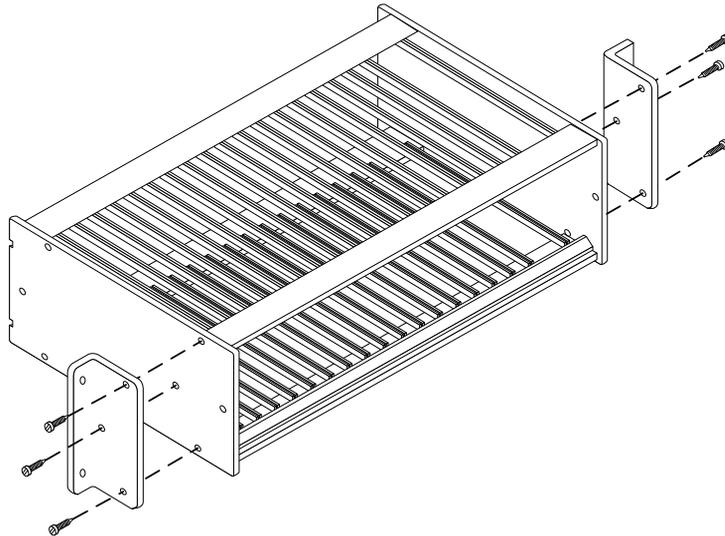

Figure 4. PSAX 1250 Chassis with Rear-Position Mounted Brackets (48.26-cm/19-in. Chassis Only)
- Mounting angle brackets are placed in a position (rear edge of chassis sidewall) with rack-attaching flanges facing the rear for flush-rear mounting on a wall. Do not use this mounting position in a cabinet or frame. This position is available only for the 48.26-cm (19-in.) chassis. See Figure 4 for the positioning of the brackets.